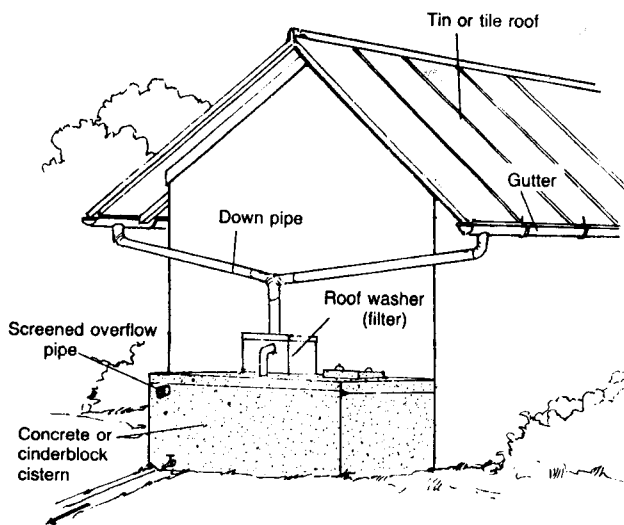
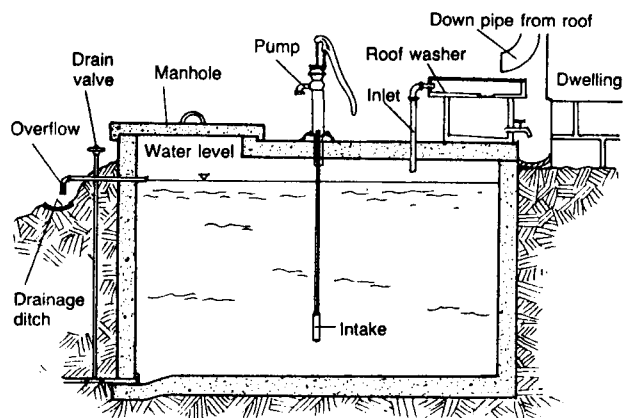

Fig. 9. Rainfall catchment with cistern
Fig.10. Underground storage for roof catchment
Concrete, ferro-cement, galvanized iron, masonry, asbestos cement, fibre glass or plastic storage tanks are all useful and practical for storing rainwater. Reinforced concrete storage tanks are usually either rectangular or circular in shape and are located adjacent to the house. They can either be built at ground level as shown in Figure 9 or underground as in Figure 10.
5. Install a screened overflow pipe at the top of the tank as shown in Figure 9.